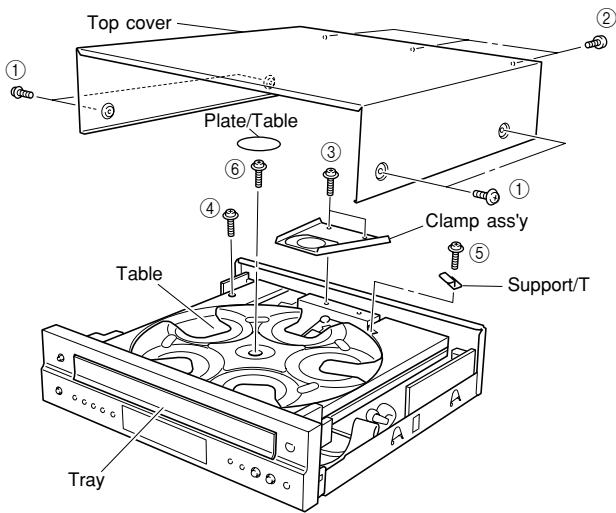

Fig. 1
- a. Remove 4 screws (①) and 3 screws (②). (Fig. 1)
- a. Remove 2 screws (③). (Fig. 1)
- b. Remove clamp ass'y. (Fig. 1)
- a. Remove 1 screw (④). (Fig. 1)
- a. Remove 1 screw (⑤) and then remove the support/T. (Fig. 1)
- b. Remove the plate/table. (Fig. 1)
- c. Remove 1 screw (⑥) and then take off the table. (Fig. 1)